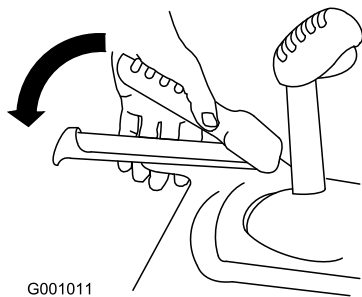

Figure 19
3. Squeeze the left hand (traction) lever to the hand-grip (Figure 19).
6. Squeeze the left hand (traction) lever to the hand-grip (Figure 19).